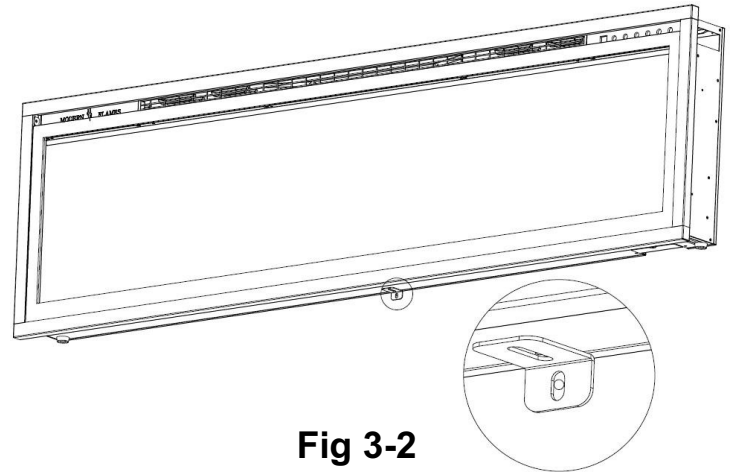

Fig 3-2
B. Using the screw previously removed, attach the L-bracket (O) (supplied) to the bottom of the fireplace box.(Fig 3-2).